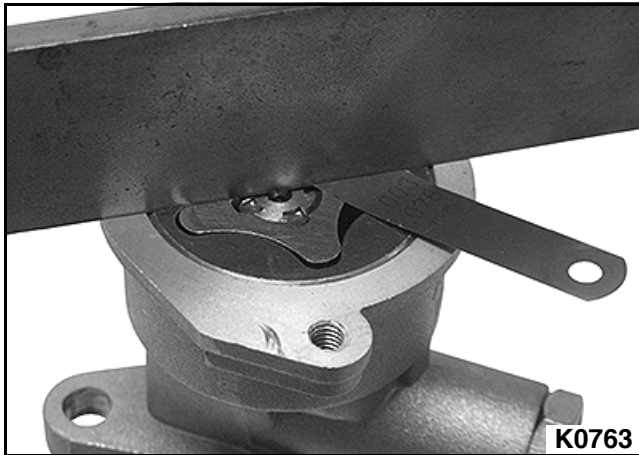

Figure 3-192
5. Use a straight edge and thickness gauge to measure the rotor side clearance. **See Figure 3-192.**